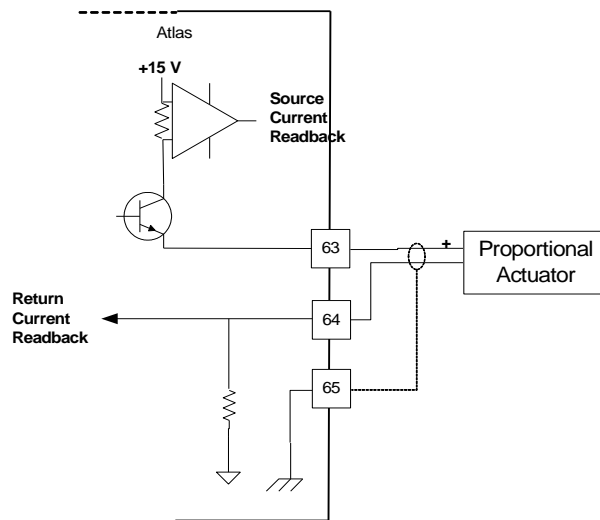

Figure 4-13. Wiring Example–Actuator Output Interface to the SmartCore CPU A5200 Board
- Refer to Figure 4-13 for actuator output wiring.